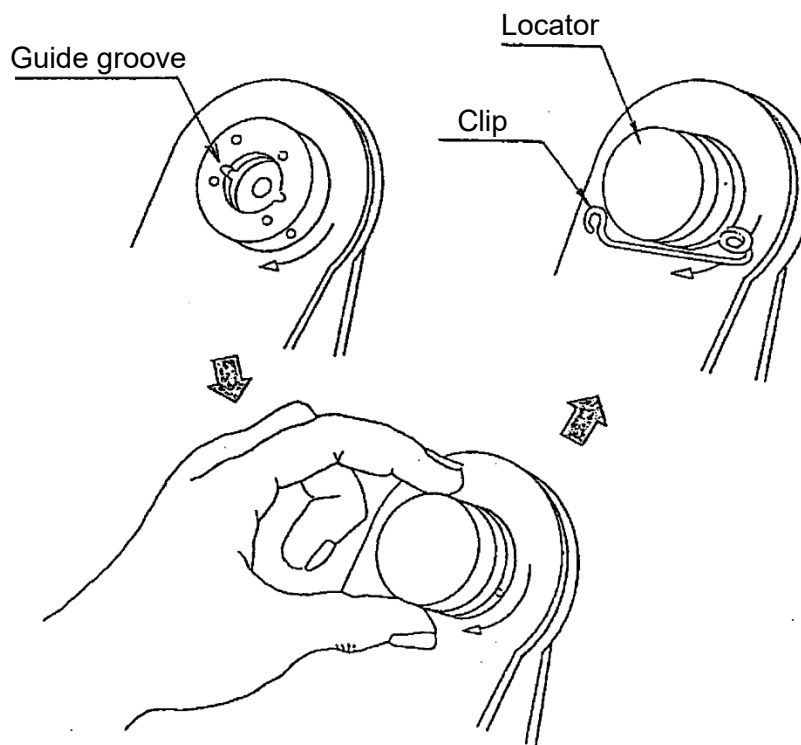

**Figure 8. Inspection Pin Gauge**
- (b) While the handle is being tightened, check the gap of jaw (virtual diameter) using the inspection pin gauge of M22520/3-01 (See Figure 8). Verify “GO” side pin (green) passes the gap and “NO GO” side pin (red) does not. Perform this inspection every time before performing crimping to ensure proper crimping results.